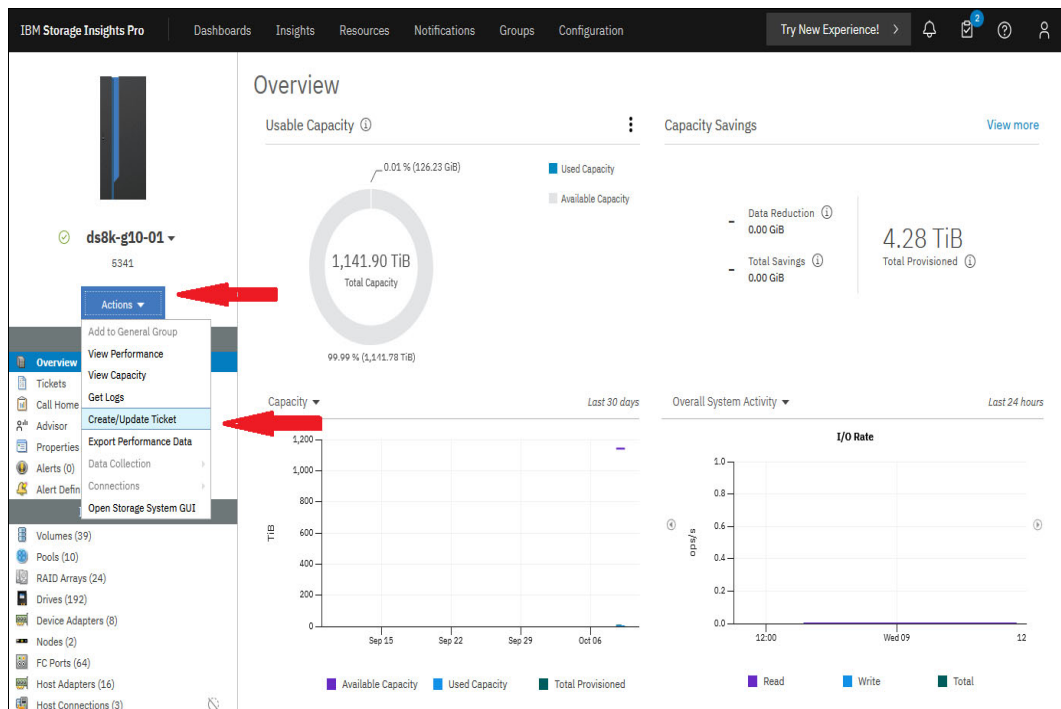

Figure 12-19 IBM Storage Insights: Overview window
1. Go to the storage system Overview page and select **Actions**, as shown in Figure 12-19. Select **Create/Update Ticket**.
1. Go to the Overview page for the storage system and select **Actions**, and then select **Create/Update Ticket**, as shown in Figure 12-19 on page 432.